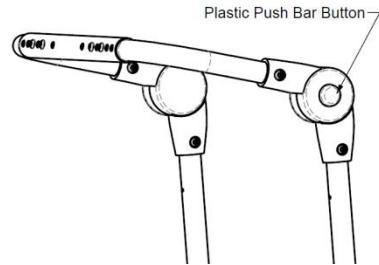

Figure 12.27: Adjustable push bar handle
1. To adjust the push bar angle, simultaneously press both plastic push bar buttons located on the top of both backrest posts (see Figure 12.27).